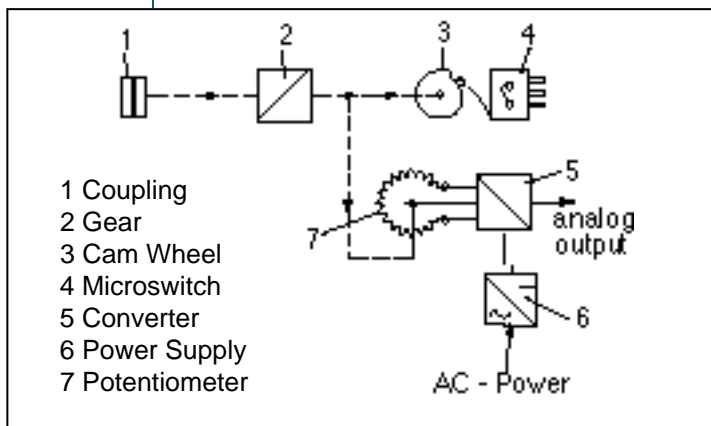

Fig. 3 Block Diagram
Fig. 3 shows the transmitter operating principle. The drive shaft connected to the tank level gauge via the coupling (1) adjusts one or more cam wheels (3) and a potentiometer (7) via a reduction gear (2). The cam wheels (3) actuate the microswitches according to the limiting values set.